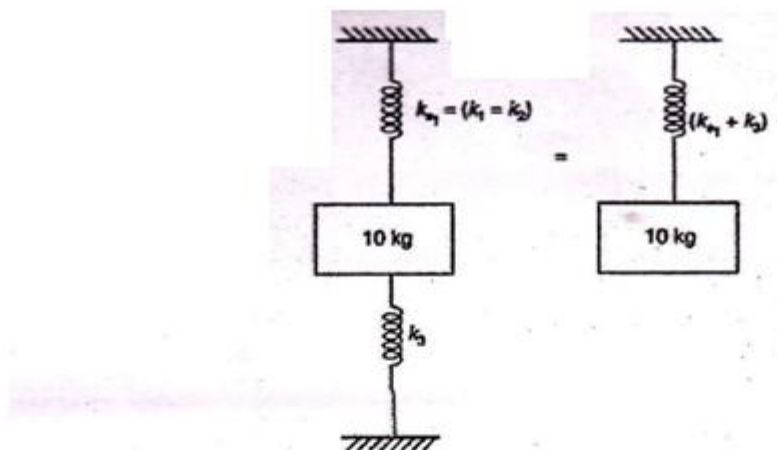

Figure 2.14
**Solution:** The equivalent system is shown in Figure 2.14.